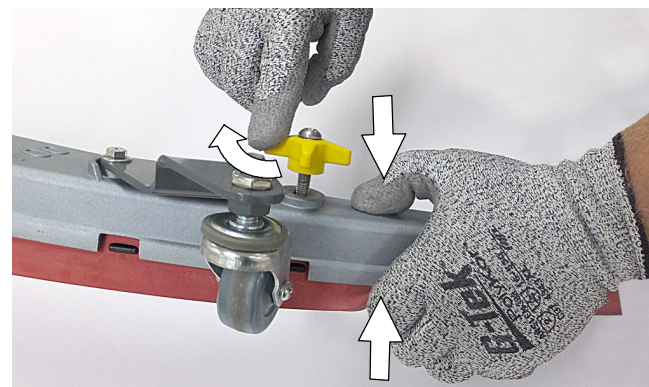

FIG. 91
5. Squeeze the squeegee frame and blade retainer together and re-tighten the two outside knobs (Figure 91).